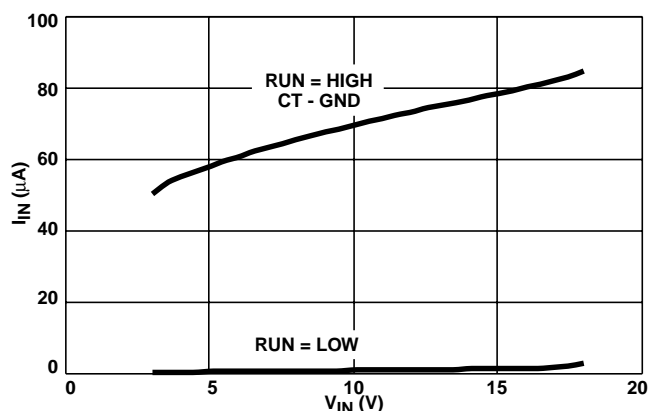

FIGURE 12. BIAS POWER CHARACTERISTICS
The converter efficiency and power dissipation at light load is mainly a function of the bias supplied to the HIP5020. Figure 12 shows the input current as a function of the input voltage for the two states of the RUN signal.  $I_{IN}$  is summation of both the current into the VIN and VINP pins. The curve for  $I_{IN}$  with the RUN signal High does not include the gate drive power.
2. Add the product of the voltage and current from the RUN = High curve in Figure 12.
4. Add the product of the voltage and current from the RUN = Low curve in Figure 12.